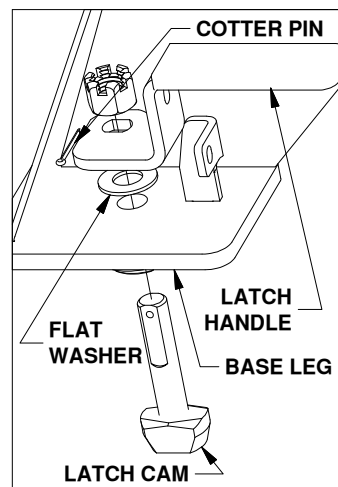

Figure C3: List of latch parts.
- 3. Adjust the tension in the latch handle,** for parts list and visual guide refer to Figures C3 and C4.